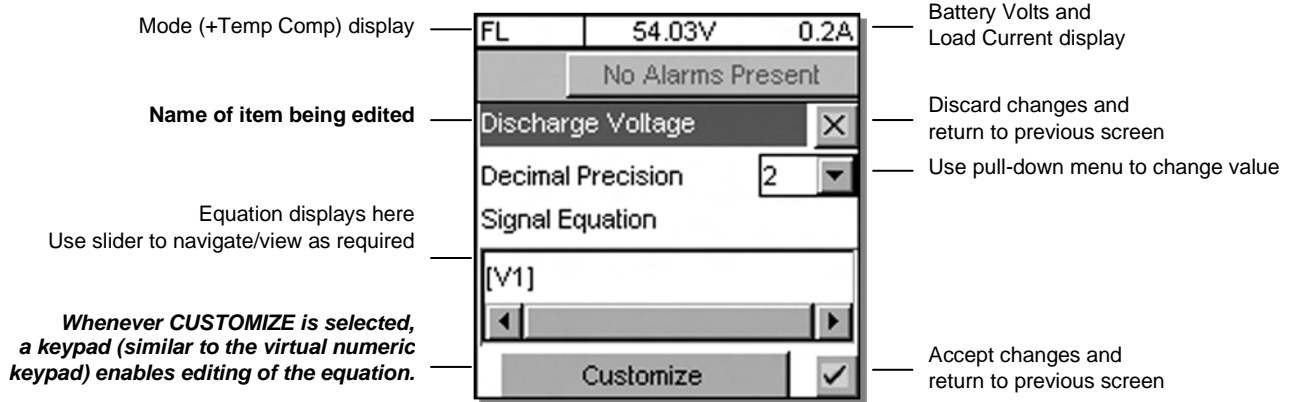

Figure 96—Screen showing example of item to be edited/customized
When configuring Alarms (Section 6.5.3), Signals (6.6.2), or Controls (0), an option to CUSTOMIZE will be presented at the bottom of the screen, see Figure 96 below. This enables the Supervisor to program separate triggering equations into the CXC software. The equations may reference any combination (up to 16) of the analog inputs, digital inputs, virtual inputs, and alarms (such as Load Voltage shown below) utilizing logical and arithmetic arguments that simulate the functionality of a programmable logic controller (PLC).